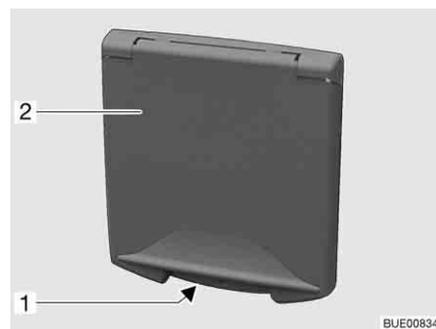

Fig. 38 Push-button lock service flap
- Insert the key into locking cylinder of the lockable push-button lock (Fig. 38,1) and turn a quarter turn. The push-button lock is unlatched.
- Insert the key into locking cylinder of the lockable push-button lock (Fig. 38,1) and turn a quarter turn. The push-button lock is locked.